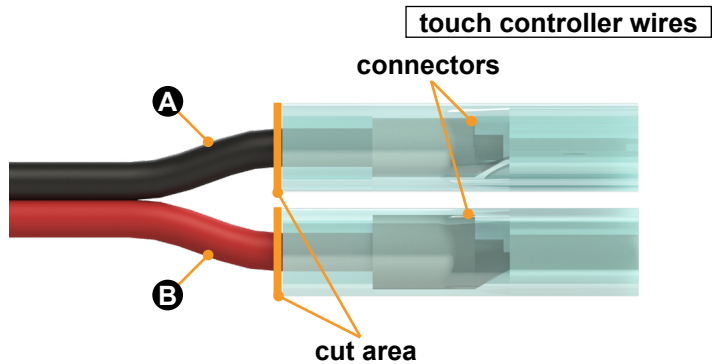

Fig.23
1. Attach the touch controller (Fig.23) as follows: